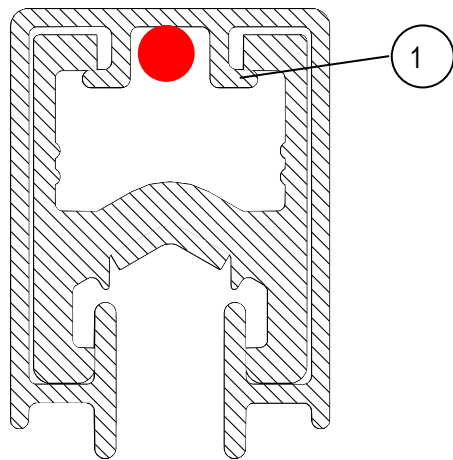

Fig. 17: Position of the heating wire during the insertion process
When inserting the heating wire (see Fig. 16) ensure that the heating wire is not pulled over sharp metal edges (e.g. in the cavity of the conductor bar). The upper groove/indentation of the insulating profile can ideally be used here as an insertion aid (see Fig. 17), since the heating wire will not be damaged here when being contacted. It should be inserted at a flat angle, if possible.
- Use indentation/groove in the insulating profile as guidance, if possible (see Fig. 17).
- At the next rail section, person (2) takes the heating wire end from the end of the first rail and continues to insert the heating wire through the conductor rail. This ensures that there is a slight constant pull on the heating wire during the insertion, so that no jerky tensile forces may be generated at the spool.
- During the entire insertion process of the heating wire, person (1) stays at the beginning of the conductor rail at the spool and observes the careful unwinding from the spool section by section. Thereby he inserts the heating wire via the insulation (see Fig. 16 and Fig. 17) with slight tensile stress and at the same time decelerates the spool, to prevent the heating wire from unwinding by itself. This is especially to avoid the formation of loops.
- In the case of long and/or unclear conductor rails, an additional person (3) may give support as a coordinator between the other two persons (1 and 2) (if necessary, by radiotelephony).